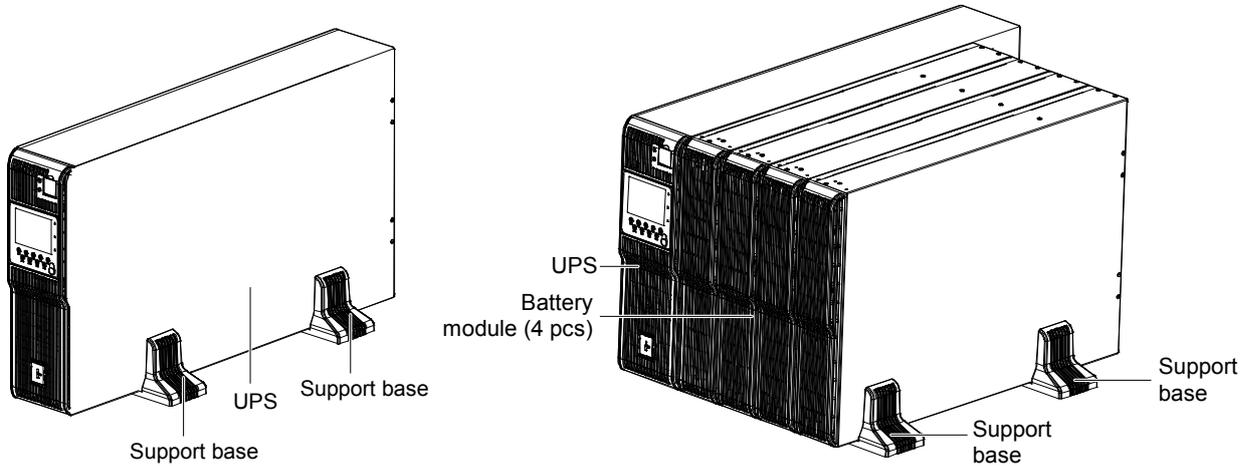

Figure 2-5 UPS and battery module Installation complete
3. Place the UPS on the support bases and support base extensions, as shown in Figure 2-5.